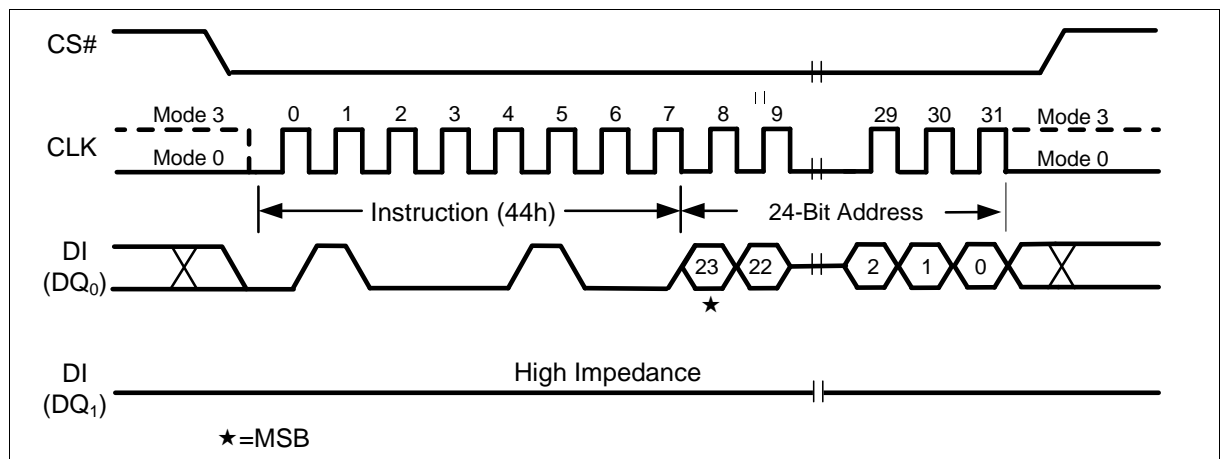

Figure 53 Erase Security Sector Instruction (SPI Mode only)
The Erase Security Sector instruction sequence is shown in Figure 53. The CS# pin must be driven high after the eighth bit of the last byte has been latched. If this is not done the instruction will not be executed. After CS# is driven high, the self-timed Erase Security Sector operation will commence for a time duration of t_{SE} (See “12.6 AC Electrical Characteristics”). While the Erase Security Sector cycle is in progress, the Read Status Register instruction may still be accessed for checking the status of the WIP bit. The WIP bit is a 1 during the erase cycle and becomes a 0 when the cycle is finished and the device is ready to accept other instructions again. After the Erase Security Sector cycle has finished the Write Enable Latch (WEL) bit in the Status Register is cleared to 0. The Security Sector Lock Bit (LB) in the Status Register-2 can be used to OTP protect the Security Sectors. Once the LB bit is set to 1, the Security Sector will be permanently locked, Erase Security Sector instruction will be ignored.